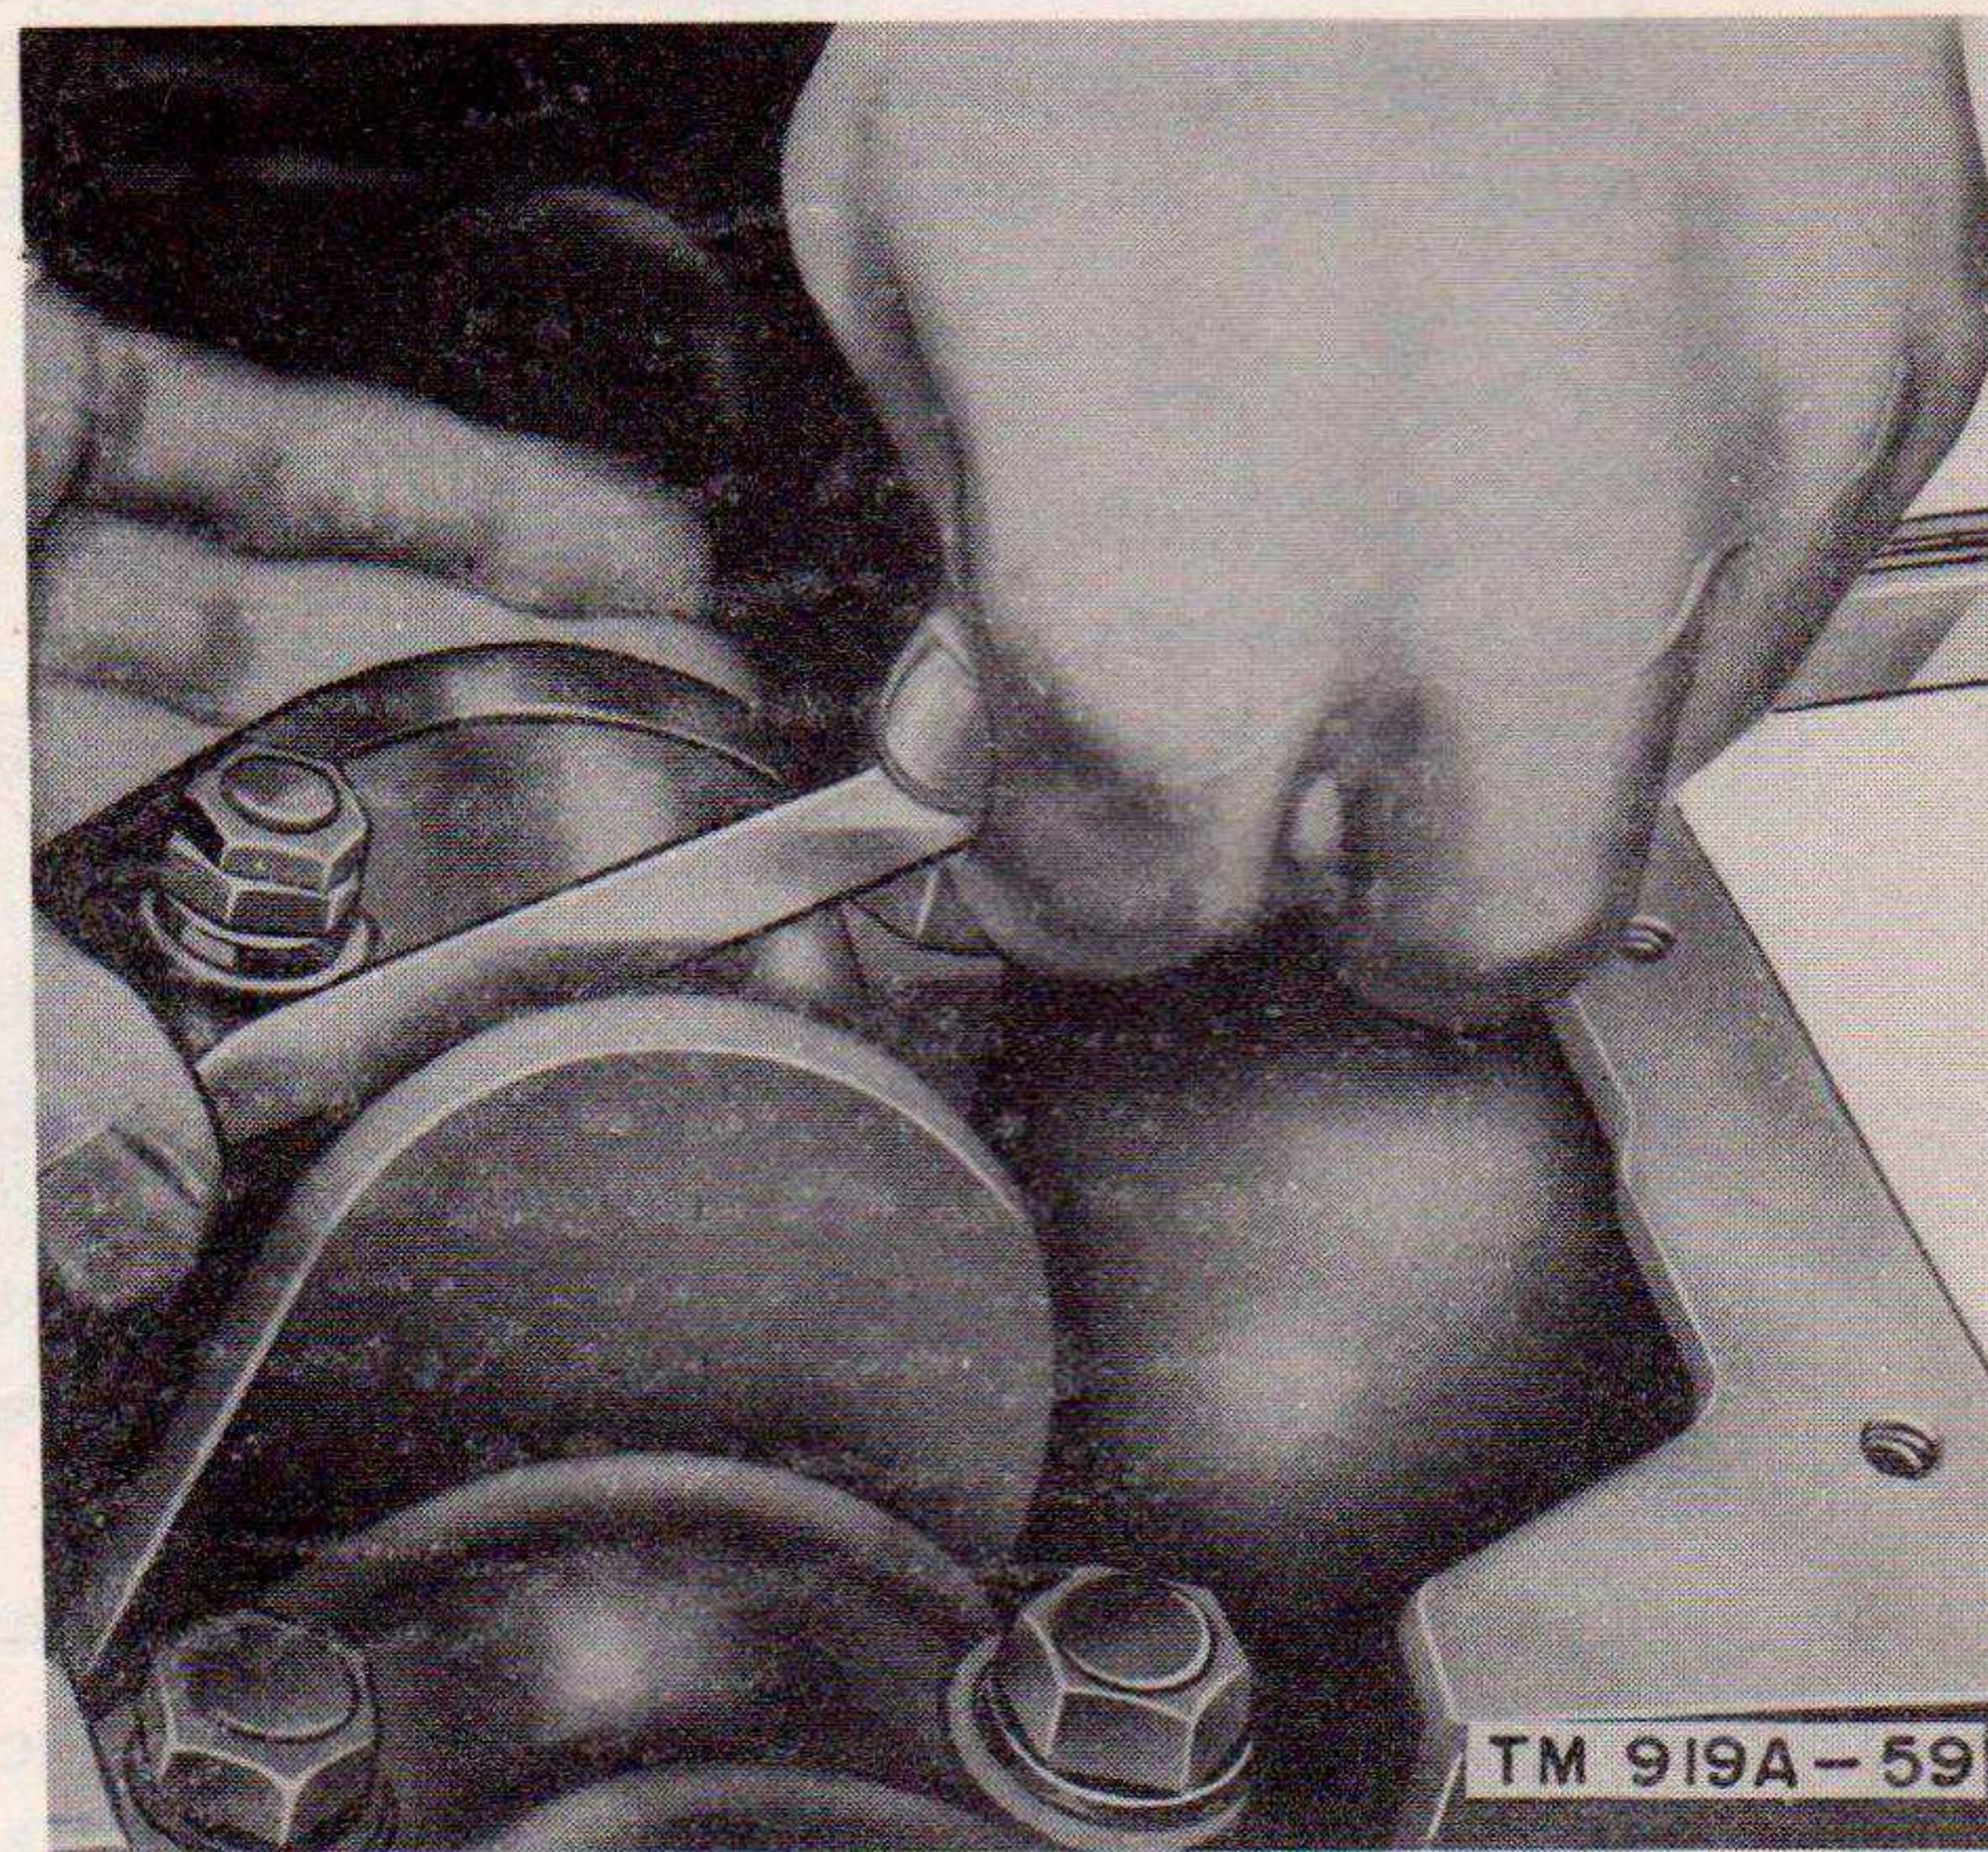

Figure 59. Checking connecting rod end play.
- (6) Apply oil (OE) on the piston. Install a ring compressor over the rings on the piston. Then force the connecting rod (32) and piston (33) down through the cylinder bore by tapping the top of the piston with a hammer handle. Install the connecting rod bearings (30) and (31). Align the oil spray holes in the upper bearing with the spray holes in the connecting rods. These spray holes must face away from the camshaft. Check the clearance between the bearings and the crankshaft journal with a .002-inch test shim. Place the shim between the bearings and the shaft journal; tighten the cap nuts to a tension of 40 to 45 foot-pounds. A slight drag on the shaft when turned by hand indicates that the clearance is correct. Remove the shim and reinstall the cap. The standard side clearance of the bearing is .008 to .012 inch, which should be measured with a feeler gage as shown in figure 59.